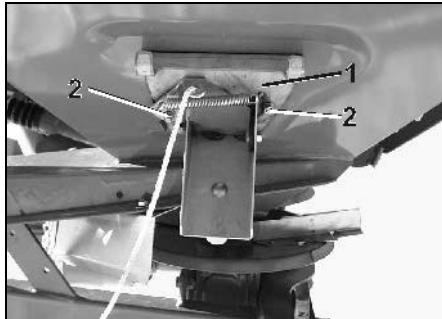

Fig. 70
- Fit the delivery chute (Fig. 70/1) with the aid of the fixing bolts (Fig. 70/2).